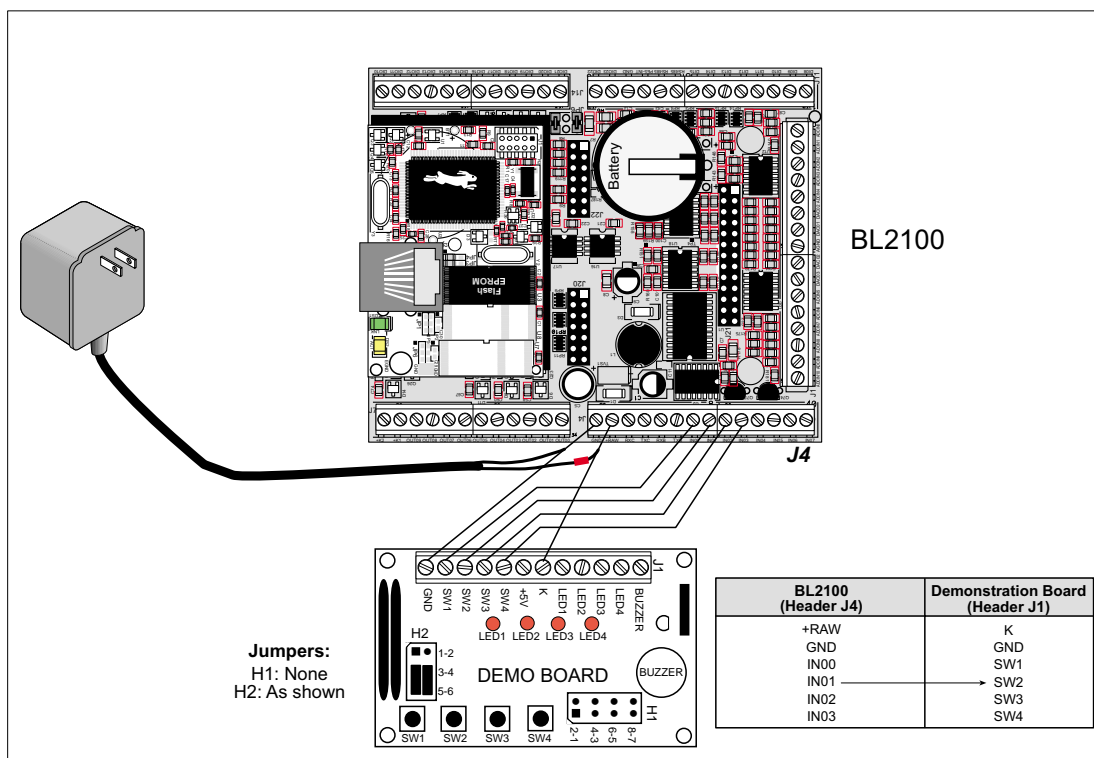
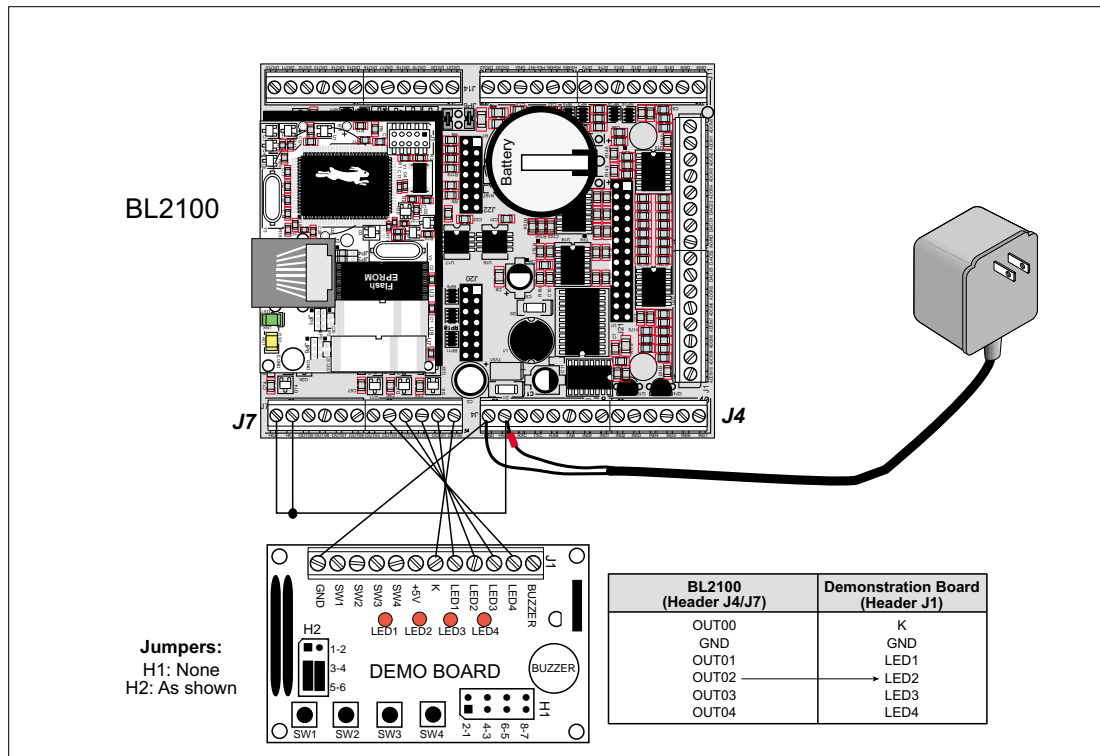
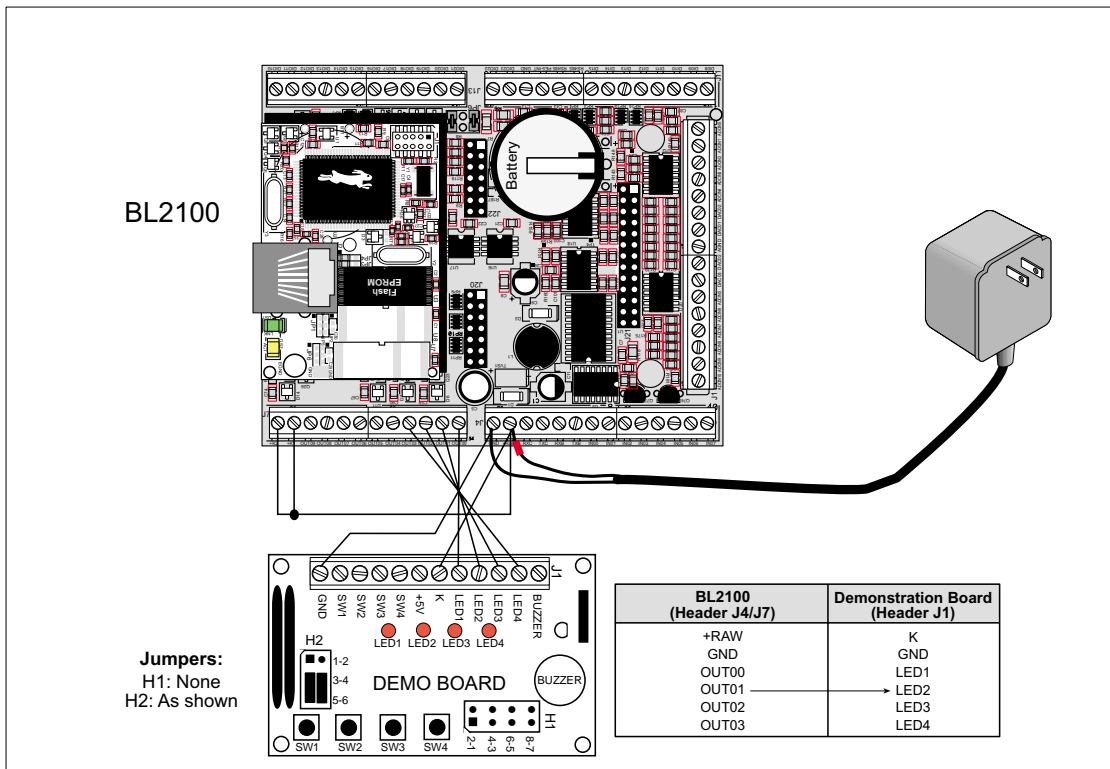

Figure E-1. General Digital Input Connections Between BL2100 and Demonstration Board
Figure E-2. Digital Output Connections Between BL2100 and Demonstration Board
Figure E-3. SSI .C Connections Between BL2100 and Demonstration Board
1. Use the wires included in the BL2100 Tool Kit to connect header J1 on the Demonstration Board to screw-terminal headers J4 and J7 on the BL2100. The connections are shown in Figure E-1 for sample program **DIGIN.C** and for sample program **SMTF.C**, in Figure E-2 for sample program **DIGOUT.C**, and in Figure E-3 for sample program **SSI.C**.
NOTE: +K1 and +K2 on screw-terminal header J7 must be connected to +RAW on screw-terminal header J4 as shown in Figure E-2.
NOTE: +K1 and +K2 on screw-terminal header J7 must be connected to +RAW on screw-terminal header J4 as shown in Figure E-3.